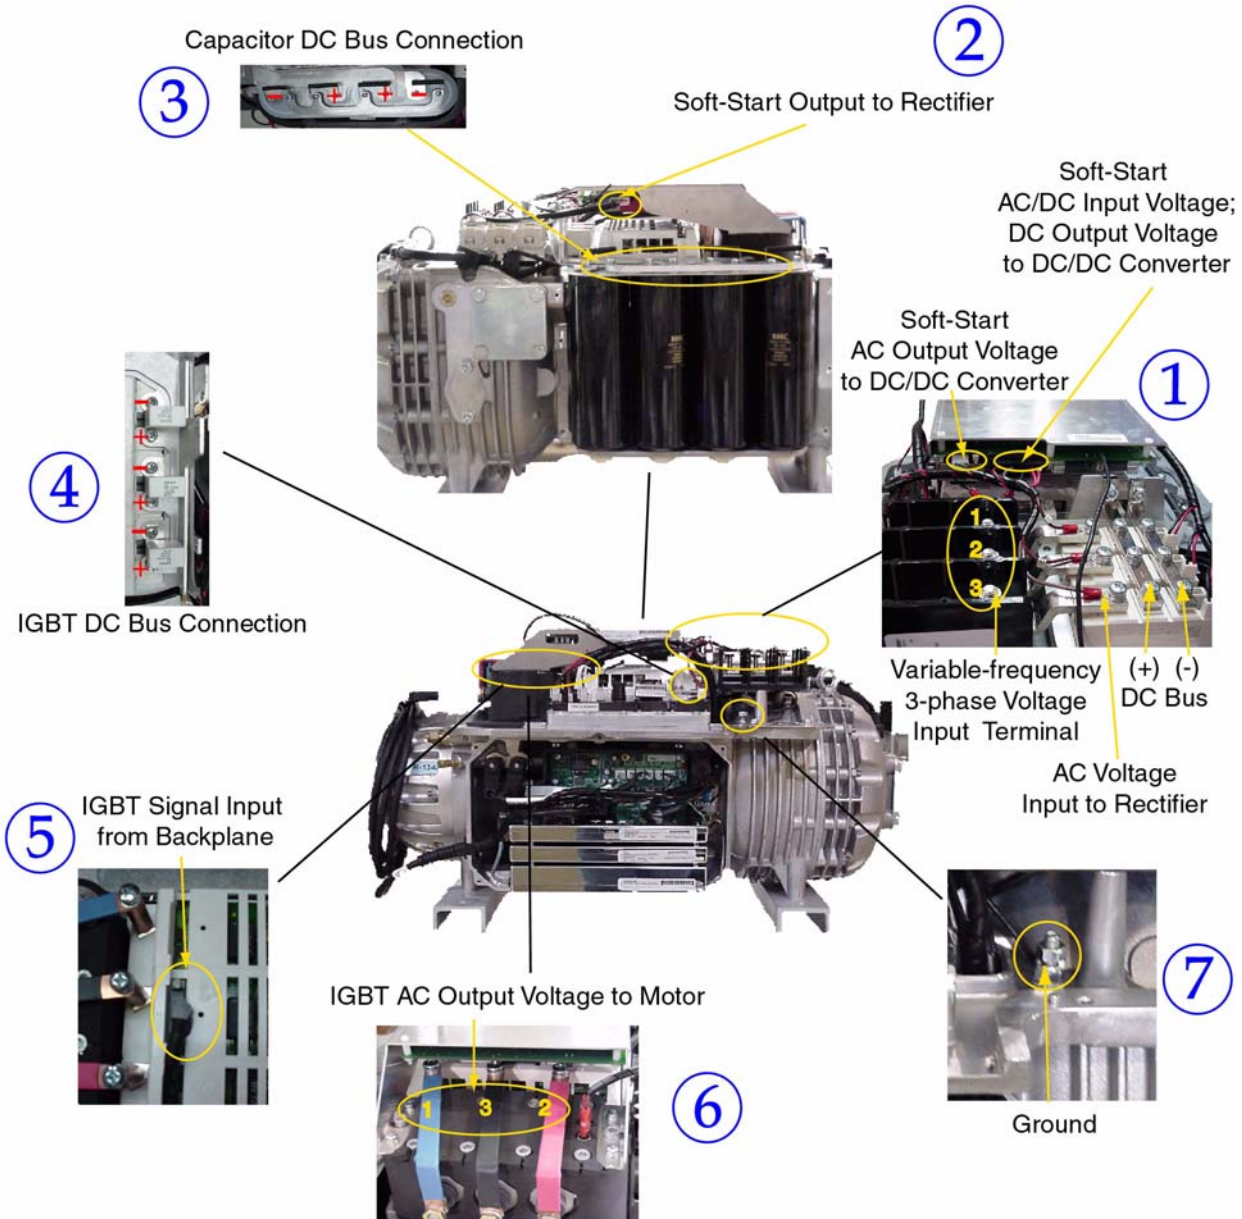

Figure 3-16 Compressor Energy and Signal Flow Connections
Use Figure 3-16 to locate the connections on the compressor through which energy and voltage signals are
A 3-phase voltage source is provided to the compressor through the voltage input terminal. The input voltage varies between 380-480VAC, at a frequency of 50/60Hz. The Soft Start Controller limits the inrush current at power-up. Refer to Figure 3-16, point (1) to locate the AC voltage input terminal and the Soft-Start AC input port.
See Figure 3-16, point (1) to locate the AC voltage input port to the Rectifier, the Rectifier DC bus output, and the DC input to the Soft-Start Controller.
Using both the AC input voltage source and the DC voltage output from the Rectifier, the Soft-Start Controller generates the inrush current control signal and outputs pulses of 0-12VDC (with respect to the positive DC bus) to the Rectifier. The output of the Soft-Start Controller is identified in point (2) of Figure 3-16.
The Soft-Start Controller not only uses the DC voltage to generate the inrush current control signal, but it also reroutes the DC voltage through a fuse and sends out the same DC voltage to the DC-DC Converter. In addition, the Soft-Start Controller also powers the DC-DC Converter with 15VAC. The Soft-Start AC and DC output ports to the DC-DC Converter are shown in point (1) of Figure 3-16.
DC Link Capacitors at the Rectifier output serve as energy storage and filter out the voltage ripple to provide a smooth DC voltage. Figure 3-16, point (3), shows the capacitor connections with the DC bus.
The DC Link Capacitors provide the Insulated-Gate-Bipolar Transistor (IGBT) Inverter with 460-720VDC. The IGBT DC bus connections are shown in point (4) of Figure 3-16. The IGBT Inverter converts the DC link voltage into an adjustable frequency and adjustable amplitude, 3-phase simulated AC voltage.
The Backplane sends +24VDC and gating signals to the IGBT. In return, the IGBT Inverter sends current, temperature, error, and DC bus voltage information to the BMCC via the Backplane. Point (5) of Figure 3-16 shows the location where the gating signals enter the IGBT Inverter, and where the feedback control is output from the IGBT Inverter. With the input gating signals, the IGBT Inverter controls the motor at a variable frequency of 0-750Hz. Point (6) of Figure 3-16 shows the location on the compressor where the IGBT Inverter outputs control to the motor.
Finally, note the location of the compressor ground from Figure 3-16 at point (7).